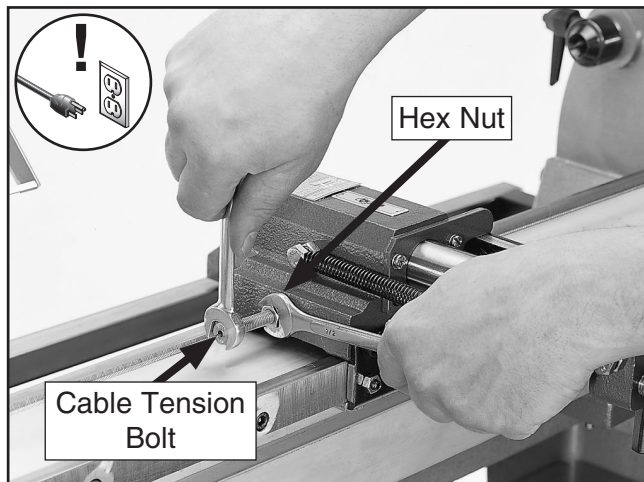

Figure 25. Adjusting carriage cable tension.
2. Loosen hex nut shown in **Figure 25**.
3. Adjust tension by loosening or tightening cable tension bolt (see **Figure 25**).
4. Tighten hex nut (see **Figure 25**).